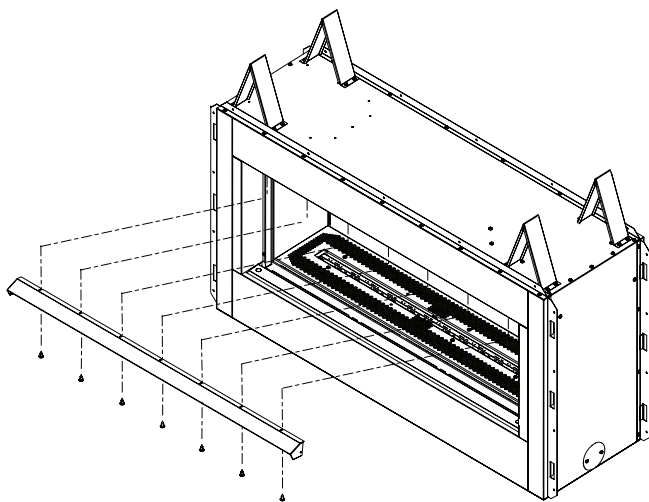

Figure 17 - Installing Hood
1. Loosen screws at top of face opening and slide hood through screws as shown in Figure 17.
1. If required, install hood as shown on Figure 17, page 13.